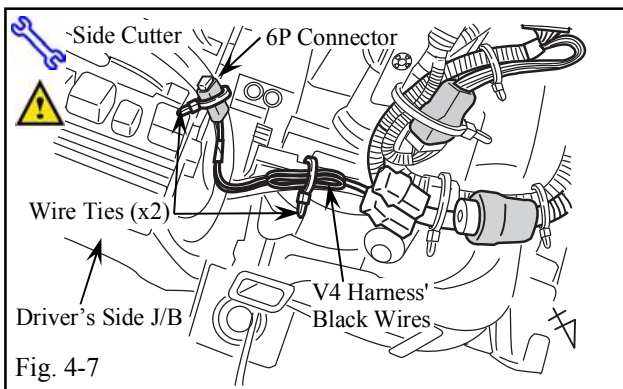

Fig. 4-7
- (i) Bundle up the V4 Harness' Black Wires and use 1 Wire Tie to secure to the vehicle harness. (Fig. 4-7)
- (j) Use 1 Wire Tie to secure the V4 Harness' White 6P Connector to the Vehicle Harness. (Fig. 4-7)